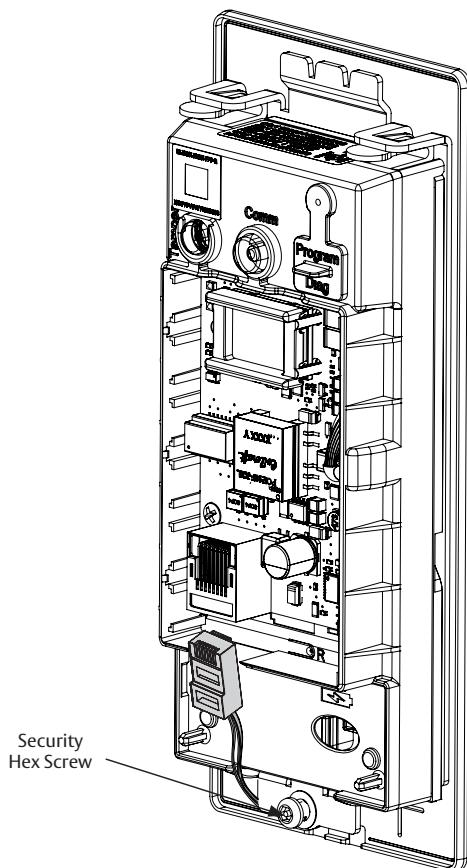

Figure 6-5A
**NOTE:** Before inserting PoE plug into connector, apply dielectric grease to top of plug, covering the pin area. (Figure 6-5A)
1. Once controller is securely in place, connect RJ45 male connector to female RJ45 port on controller board. (Figure 6-5A)